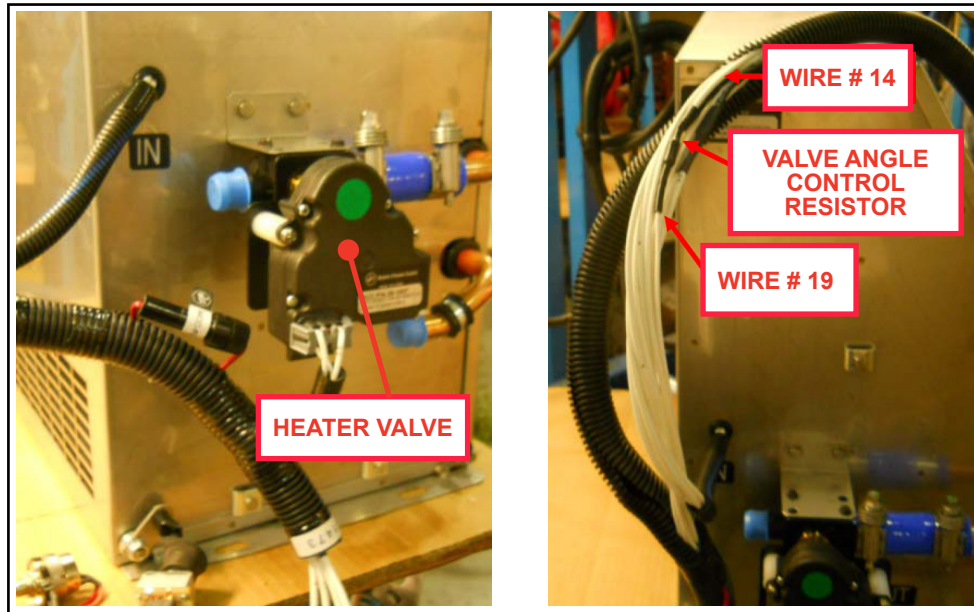

Figure 5 - Typical Location of Heater Valve and Valve Angle Control Resistor
- 1.15. Locate the heater valve harness and identify the angle control resistor which is about 1.4-1.6 ft away from the mating connector. Then take wires out of the loom (see Figure 5).